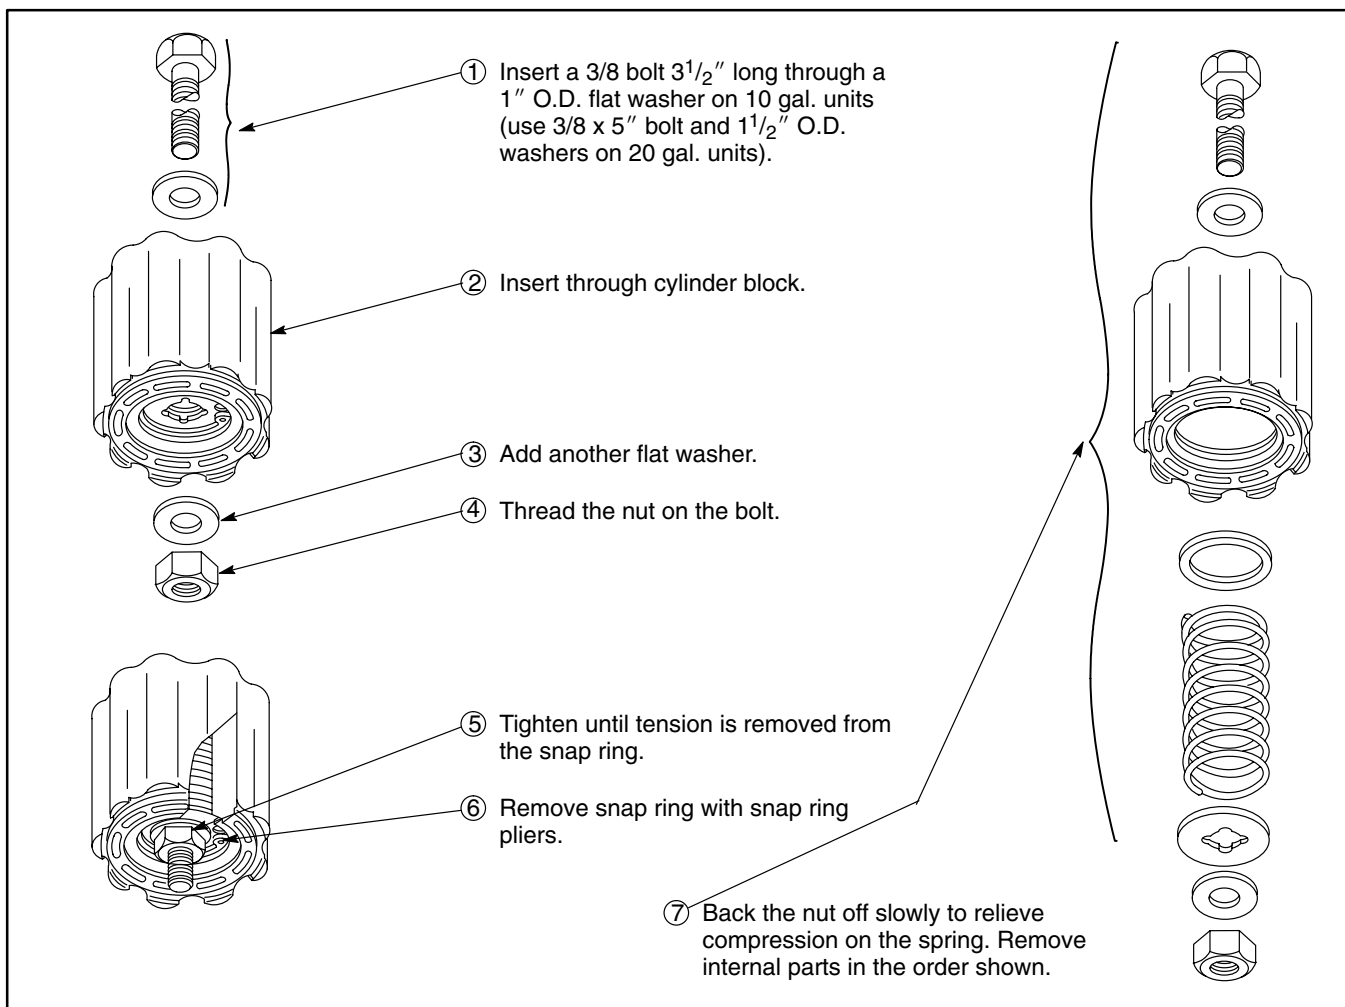

Figure 9.
If the spring and washer are to be removed from the cylinder block, follow the procedure outlined in Figure 9 to prevent bodily injury from the sudden release of the cylinder block spring.
4. **Rotating Group Assembly** – If the spring and washers were removed from the cylinder block, assemble them as shown in Figure 9.